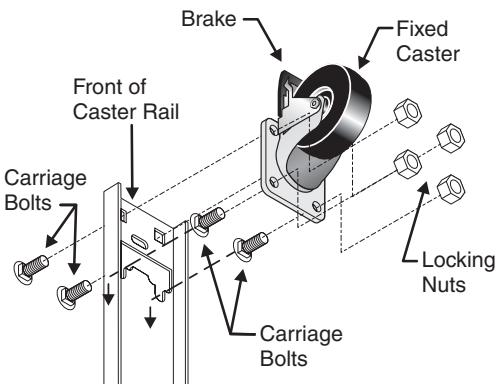

Fig. 3
- Put two (2) carriage bolts through the rear (non-brake) side of the fixed caster and hold the carriage bolts loosely in place by threading several turns each on the locking nuts. Do not tighten the bolts yet.
- Insert the two (2) front carriage bolts thru the top side of the caster rail and then thru the front holes on the caster. Attach locking nuts to each.
- Tighten all locking nuts securely using a $\frac{1}{2}$ inch end wrench or socket wrench (see Fig. 3).